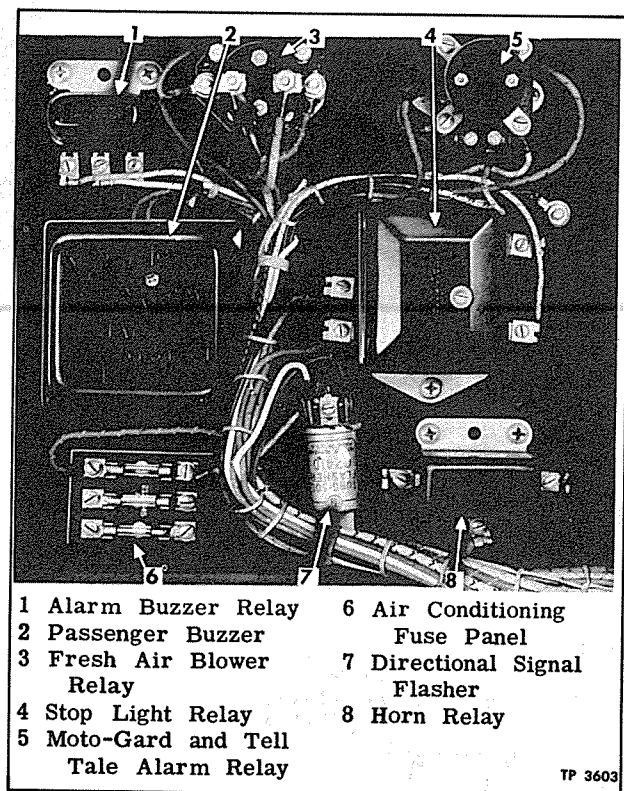
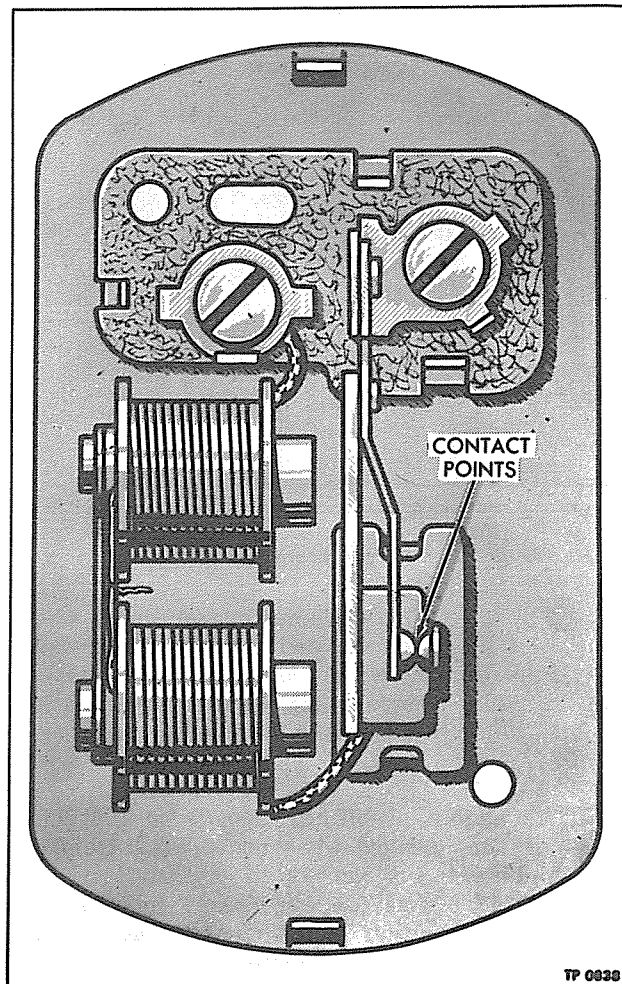
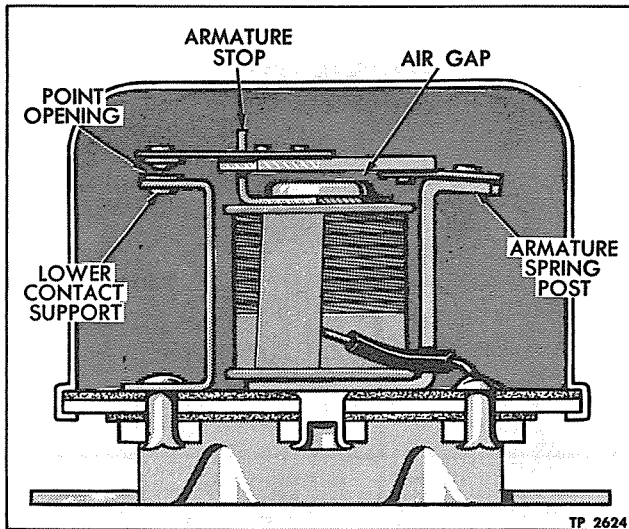

Figure 7—Buzzer and Relay Panel Assembly
Figure 11—Tell-Tale Alarm Buzzer
Figure 12—Tell-Tale Alarm Buzzer Relay
Tell-tale alarm buzzer (fig. 11) is mounted on relay and buzzer panel (fig. 7) at rear of gang switch panel. Alarm buzzer warns the driver audibly of four conditions as follows (1) Low Air Pressure (2) Emergency Door Not Closed (3) Low Oil Pressure (4) Water Overheated. Buzzer is
Tell-tale alarm buzzer relay (fig. 12) is used to complete low air pressure switch and emergency door switch electrical circuit to tell-tale alarm buzzer. Whenever either of these switches are closed an electrical circuit is completed through the relay which causes the buzzer to sound and warn the driver that one of these conditions exists. Relay is mounted on a buzzer relay panel (fig. 7) located behind gang switch panel. Refer to wiring diagram (fig. 1) for circuit, wire size and color and terminal junctions.
Disconnect lead from terminal "B." Check air gap between armature and core with contact points in closed position. Adjust by bending lower contact support (fig. 12). Align lower contact support so that air gap between core and armature will be uniform.
Check contact point opening and adjust, if necessary, by bending armature stop (fig. 12). Clean contact points with a thin fine-cut contact file if pitted.